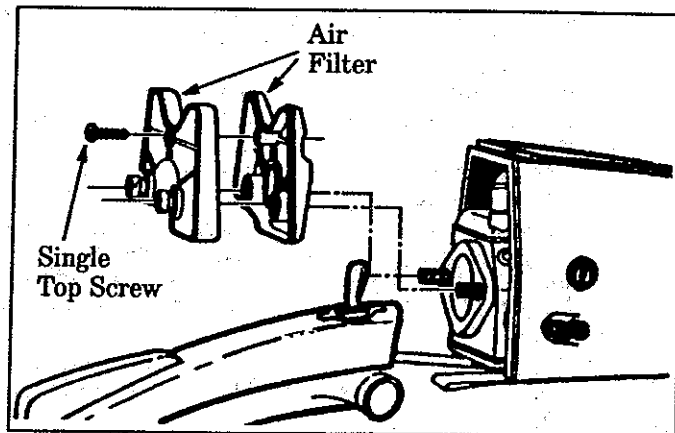

Figure 42
3. Remove the carburetor cover. Figure 42.